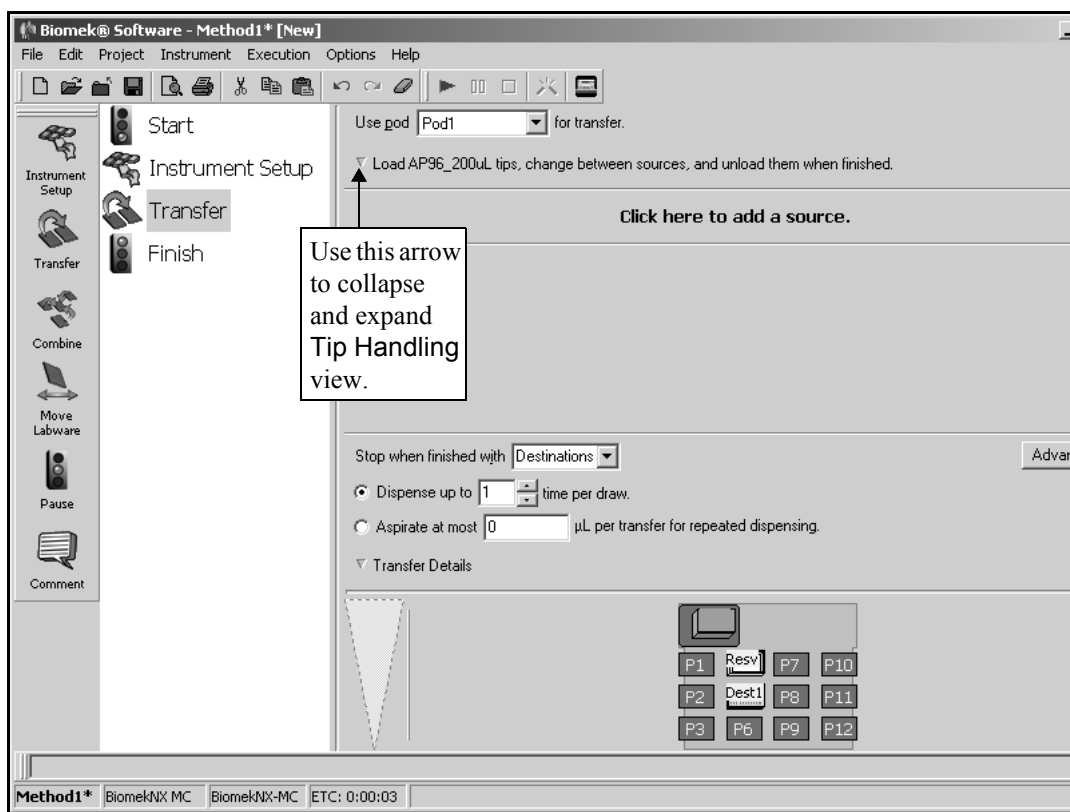

Figure 2-8. Transfer step with Tip Handling collapsed
6. Your tips are configured for your liquid transfer, so click the **up arrow** next to Tip Handling to collapse the configuration. This allows more room for the step configuration (Figure 2-8). The text displayed reflects your tip handling configuration.